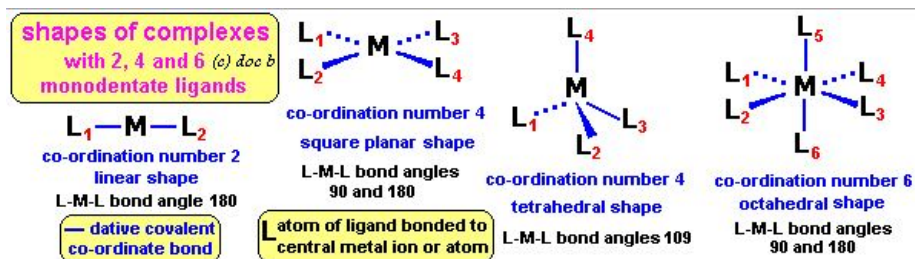

Figure 2.7: Complex Shapes and Structures
- Figure 2.7 - Complex Shapes and Structures - <http://www.docbrown.info/page07/appendixtrans03.htm> - Accessed 14:49, 11/02/2015.